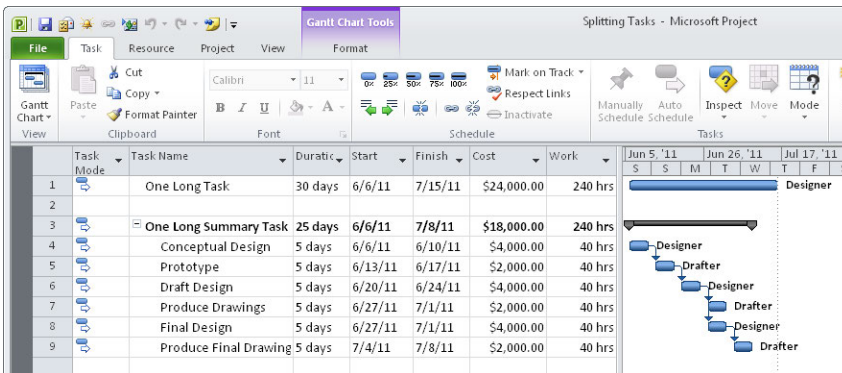

FIGURE 13-2 By breaking up long tasks into several shorter ones, you might be able to reduce the duration and the cost of the work.
You might be able to improve your schedule and reduce cost by splitting a long task into several shorter tasks. Instead of the same person performing the entire task, you might be able to assign different resources to the shorter tasks, so you can overlap the tasks. And if you can assign less expensive people to some of the shorter tasks, you can reduce the overall cost. Figure 13-2 demonstrates breaking up a long task to achieve both of these benefits. The original task in the top window takes 30 days and costs \$24,000. By splitting the task into work that a designer and drafter can do, as illustrated in the bottom window, the new duration is 25 days and the cost is \$18,000.
1. Insert a blank row below the long task by clicking the Task Name cell immediately *below* the long task in the Task Sheet. For example, in Figure 13-2, you click the Task Name cell in row 4.